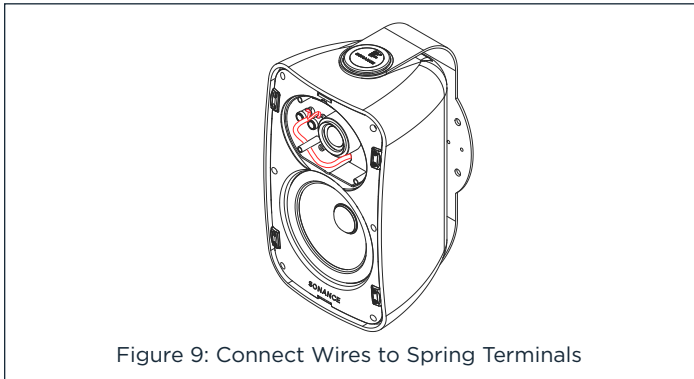

Figure 9: Connect Wires to Spring Terminals
7. Tuck any loose wiring from the binding post wire terminals under the wire management post just below the terminals (see Figure 9). Option to hold the wire under the wire management post using a zip tie and screw (zip tie and screw not included).